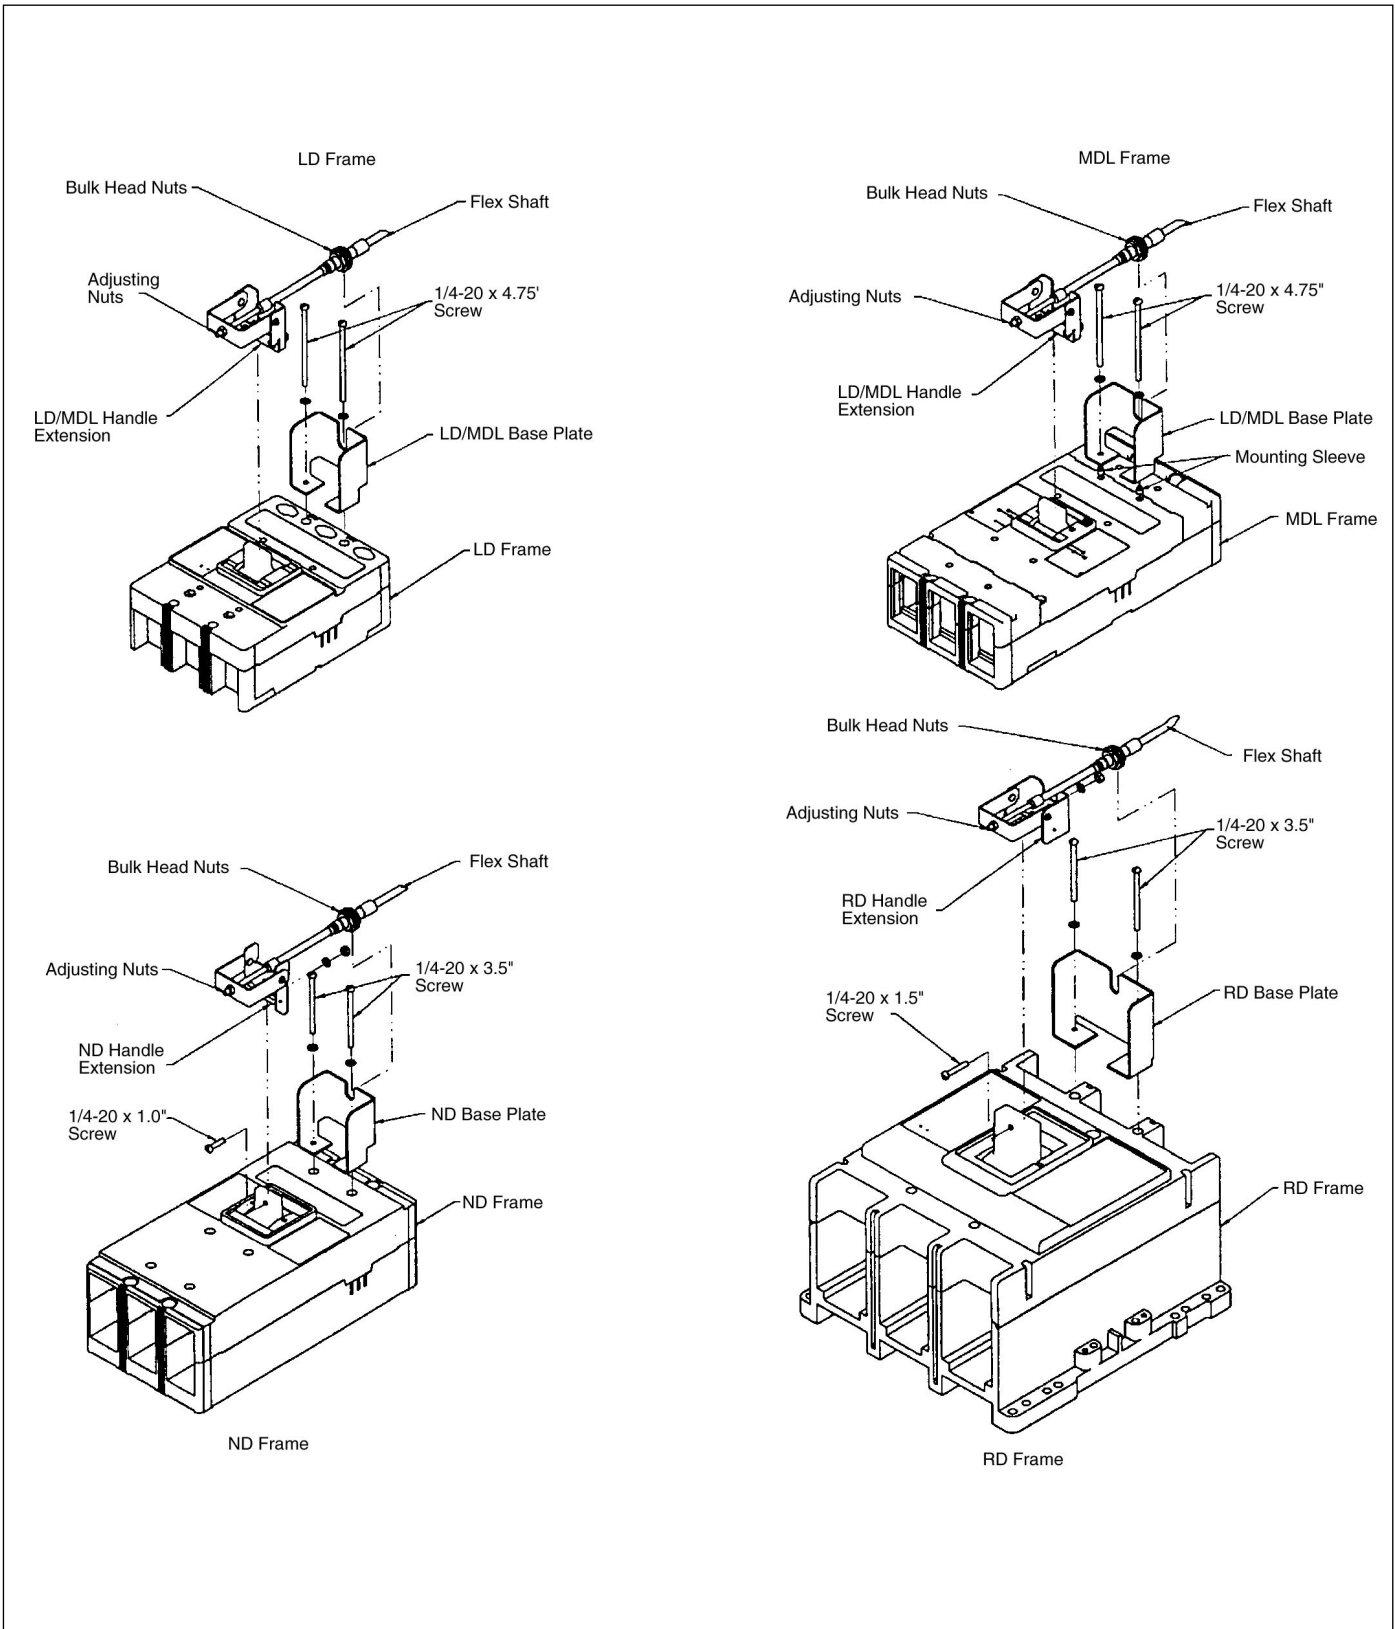

Figure 1-2 LD, MDL, ND, RD Mechanism Assembly
**LD:** Attach the base plate and Load end of the breaker to enclosure using the 1/4-20x4.75" screws and lockwashers enclosed. See Figure 1-2 for illustration.
**M:** Attach the Load end of the breaker to the enclosure using hardware from the hardware kit. Attach the base plate to the Load end cover on the (M) type breaker. The load end cover screws are replaced with the (2) 10-32x2" screws and lockwashers enclosed. (Not shown in Figure 1-2).
**MDL:** Attach the load end of the breaker to the enclosure using hardware from the hardware kit. Attach the base plate to the load end cover of the breaker. The load end cover screws are replaced with the (2) #8-32x2.25" screws, #8 lockwashers, and mounting sleeves enclosed. See Figure 1-2 for illustration.
**ND:** Attach the Load end of the breaker to the enclosure using hardware from the hardware kit. Attach the base plate to the circuit breaker using the 1/4-20x3.5" screws and 1/4" lockwashers enclosed in the parts kit at the load end of the breaker after removing the (2) load cover screws located between the trip unit and the two load end mounting holes. See Figure 1-2 for illustration.
**RD:** Attach the Load end of the breaker to the enclosure using the hardware from the hardware kit. Attach the base plate to the circuit breaker using the 1/4- 20x3.75" screws and 1/4" lockwashers enclosed in the parts kit at the load end of the breaker. See Figure 1-2 for illustration.
6. Place the outer handle mechanism in the full **ON** position and the circuit breaker in the **ON** position. You must Release Cover interlock to move handle to **ON** position. Place the handle extension assembly onto the breaker handle and secure as shown on Figure 1-2.
8. Actuate the outer handle positions (**ON**, **OFF**, **RESET**). If minor adjustments are necessary, refer to the following adjustment checklist and Figure 1-2.